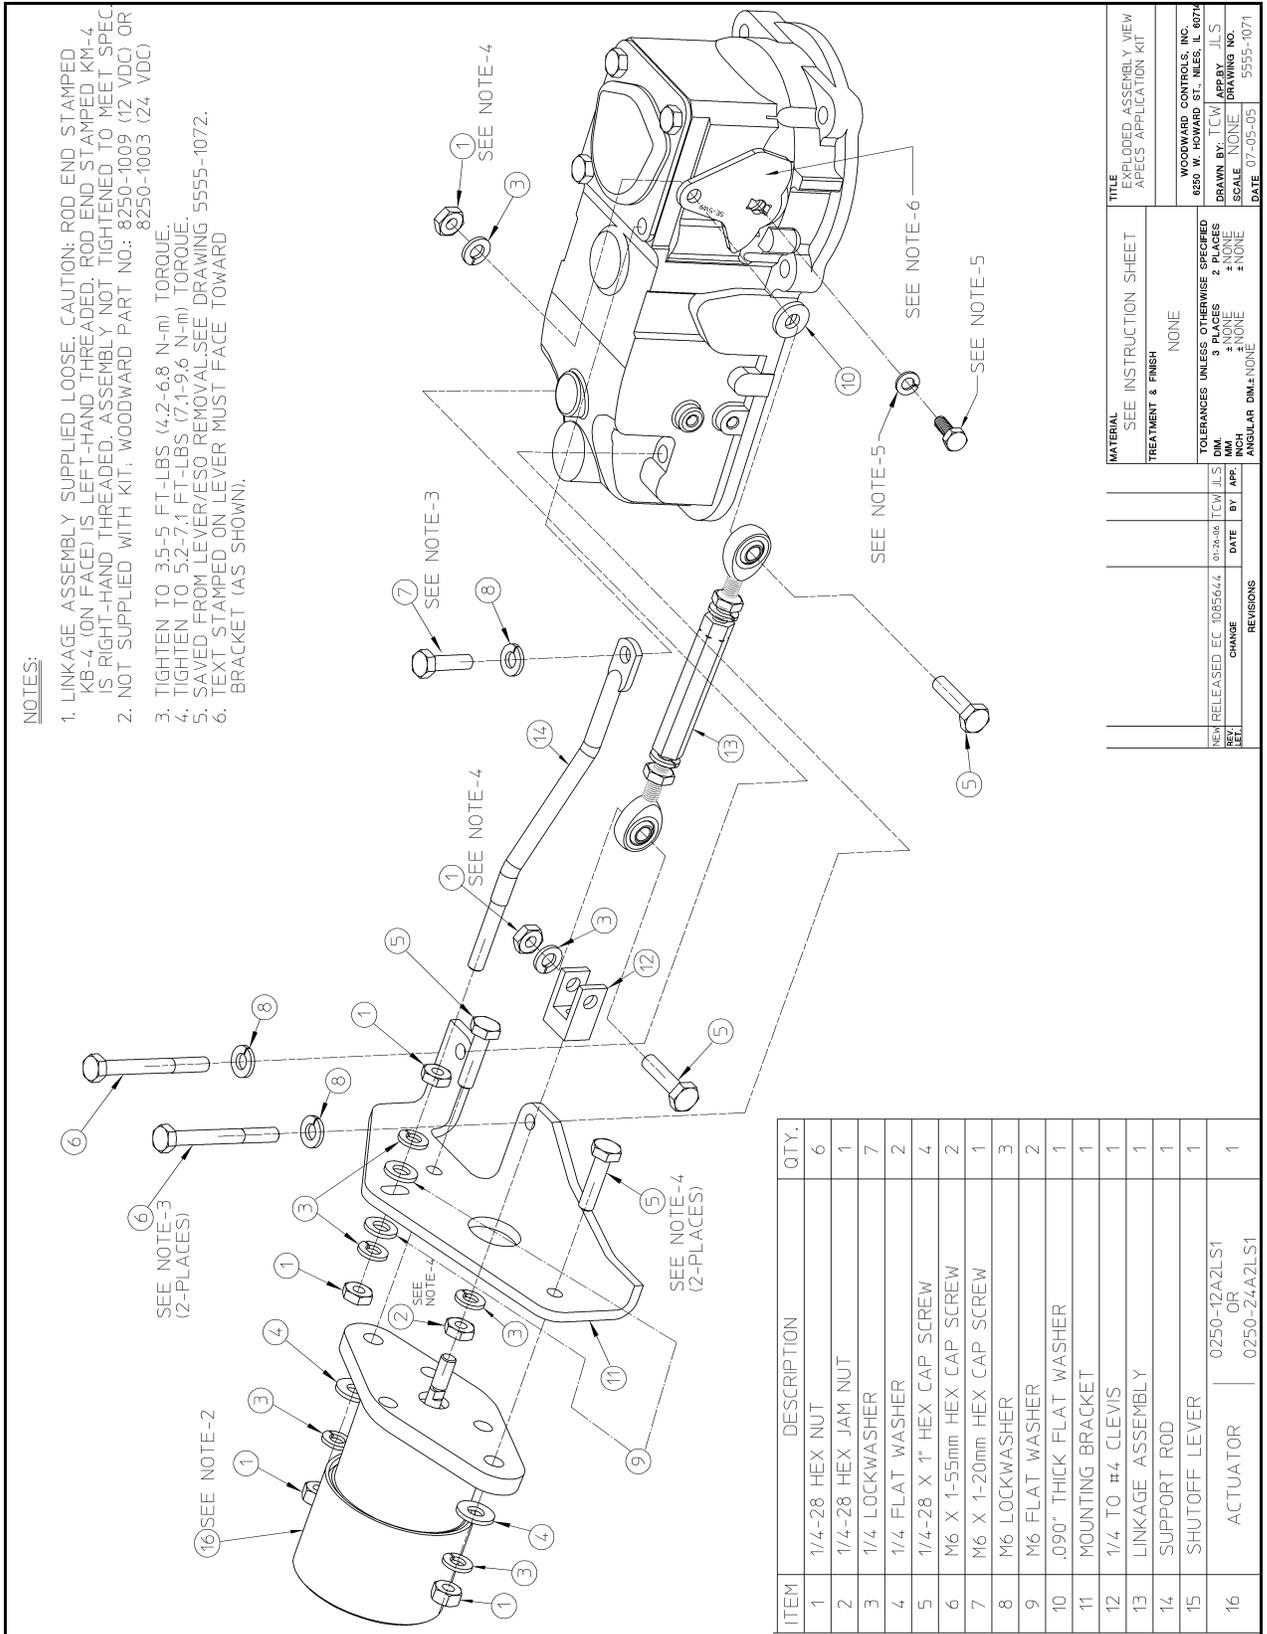
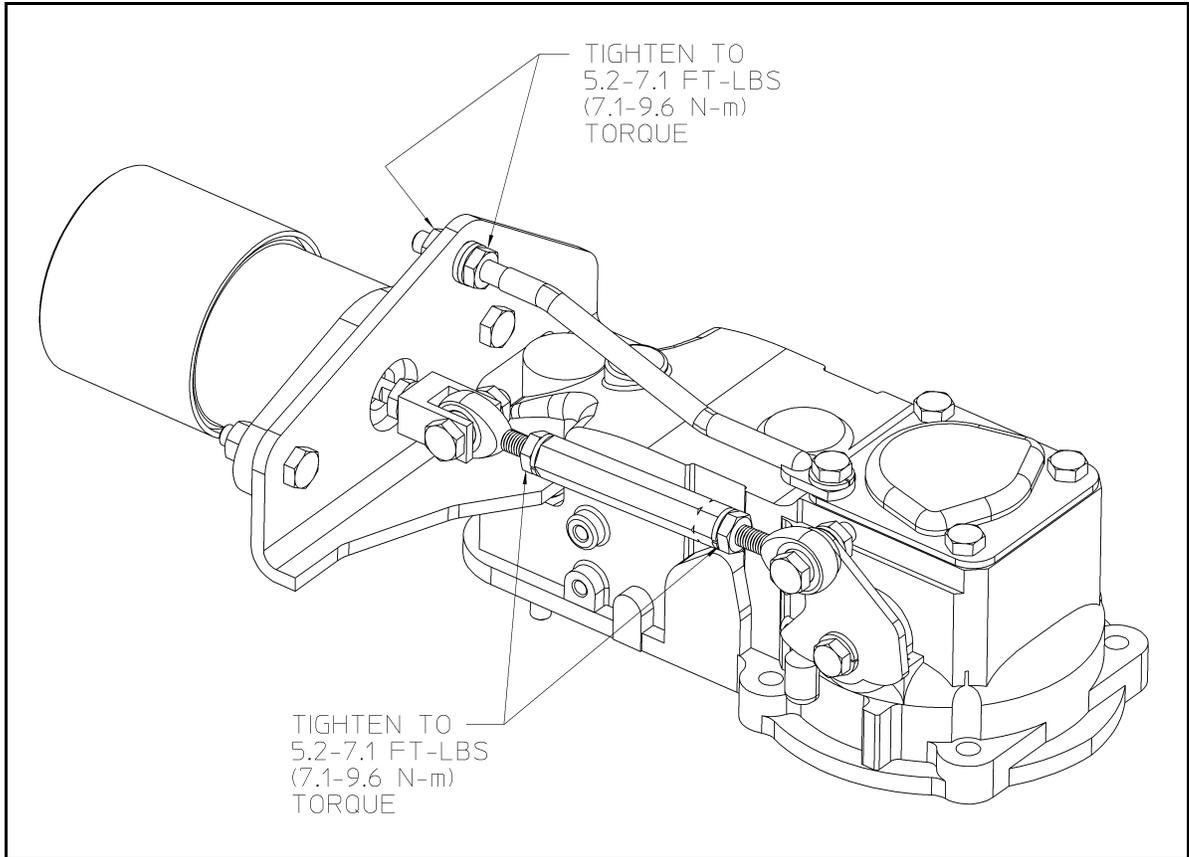

Figure 1. Exploded View
Figure 3. Final Assembly & Linkage Assembly Torque Specifications
The APECS[®] 0250 kit is specifically designed for Isuzu 4JG1-TPV engines (Woodward P/N 8923-1169). Kit contents are listed in the table below; refer to the exploded view in **Figure 1** for parts identification.
Refer to **Figure 1**, which shows all hardware to be installed and torque specifications.
Refer to **Figure 3**. Bring hex nut on threaded end of support rod in contact with the bracket. Use another hex nut (1) lock washer (3) and flat washer (9) to secure the rod to the bracket. Tighten to torque specification shown in **Figure 3**.
Refer to **Figure 1**, which shows all hardware to be installed and **Figure 3** for torque specifications.
6. Reconnect battery. Start and stop the engine to ensure proper operation. Adjustment of the actuator linkage (13) may be needed so that the engine will shut down and reach full rated engine RPM under all conditions. After all adjustments are made, tighten linkage to torque specifications. Refer to **Figure 3**.